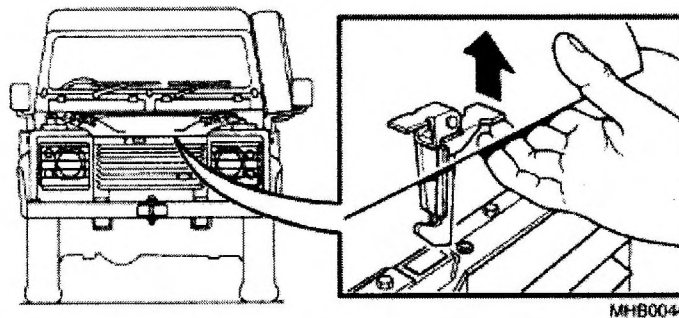

Fig 24 Bonnet safety catch
44.2 To open, insert the hand under the bonnet and locate the bonnet safety catch (Fig 24) on the left hand side of the vehicle, press upwards, this releases the safety catch and lifts the bonnet clear.